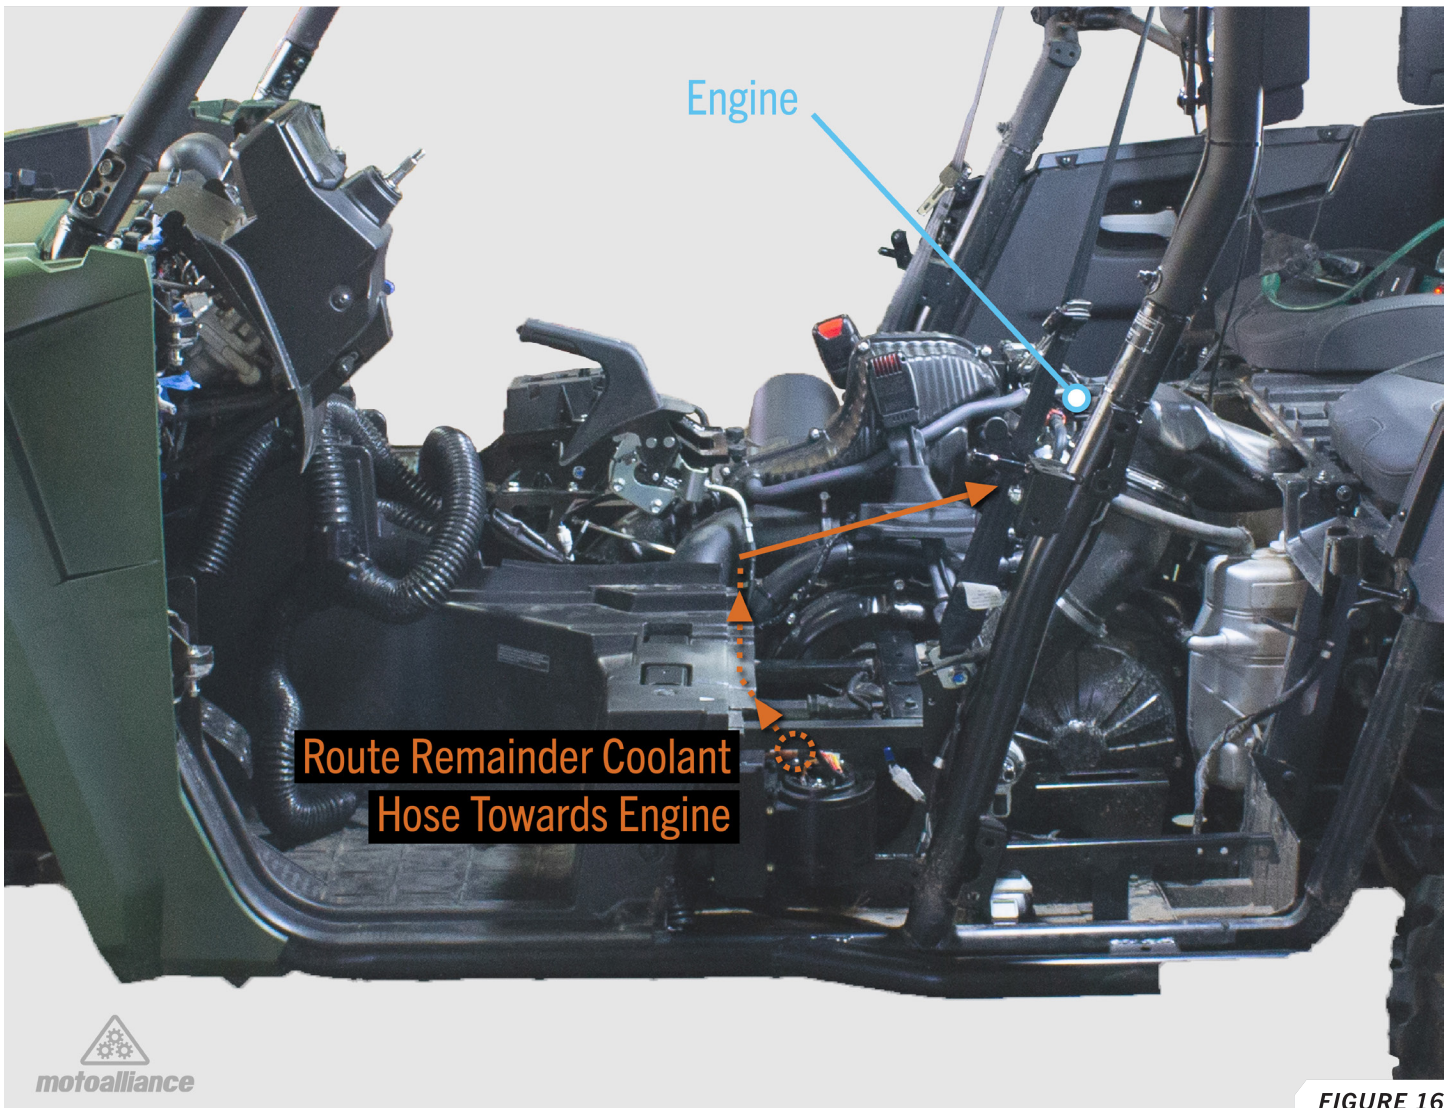

FIGURE 16
35. Take the remainder of the radiator hose and route it from the cavity under the driver's seat toward the back of the vehicle. It should follow the engine's main coolant line until they both reach the engine. **FIGURE 16**